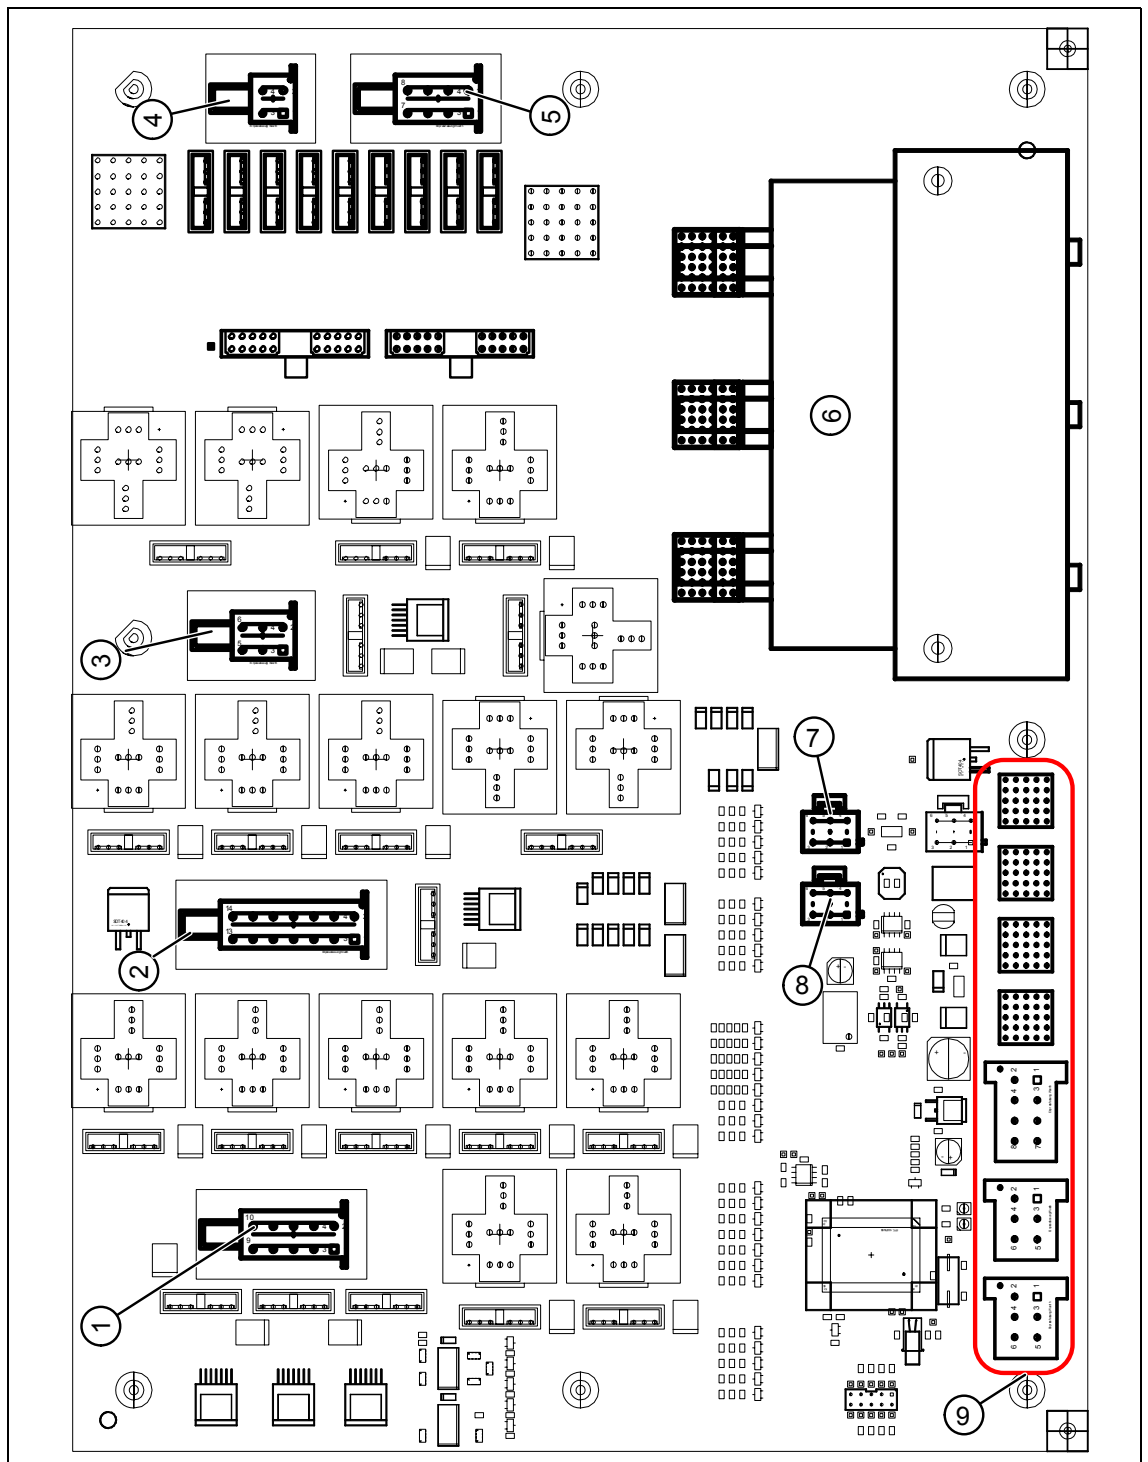

Fig. 10 Overview of power unit - connector assignment
**Legend for Fig. 10 "Overview of power unit - connector assignment"**